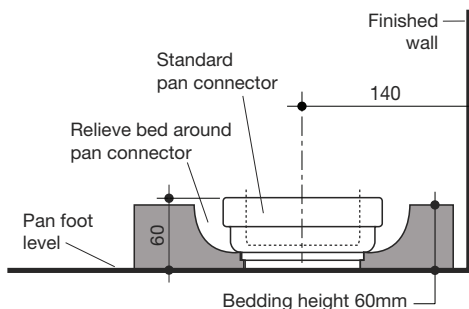

Fig. 1
The Origin Smartflush Pan 'S' Trap installation is detailed in Fig. 1. The recommended set-out for 'S'-Trap installations is 140mm from the finished wall. **It is important to position the pan collar 60mm max. from the foot level of pan as detailed in Fig. 1.**
- 3- Prepare bedding sand cement mixture 3:1 to depth of 60mm as detailed in Fig.1. **Note:** Do not fill the foot of the pan with bedding mix or include lime or fast drying cement into the mix, these may cause cracking in the foot of the pan.